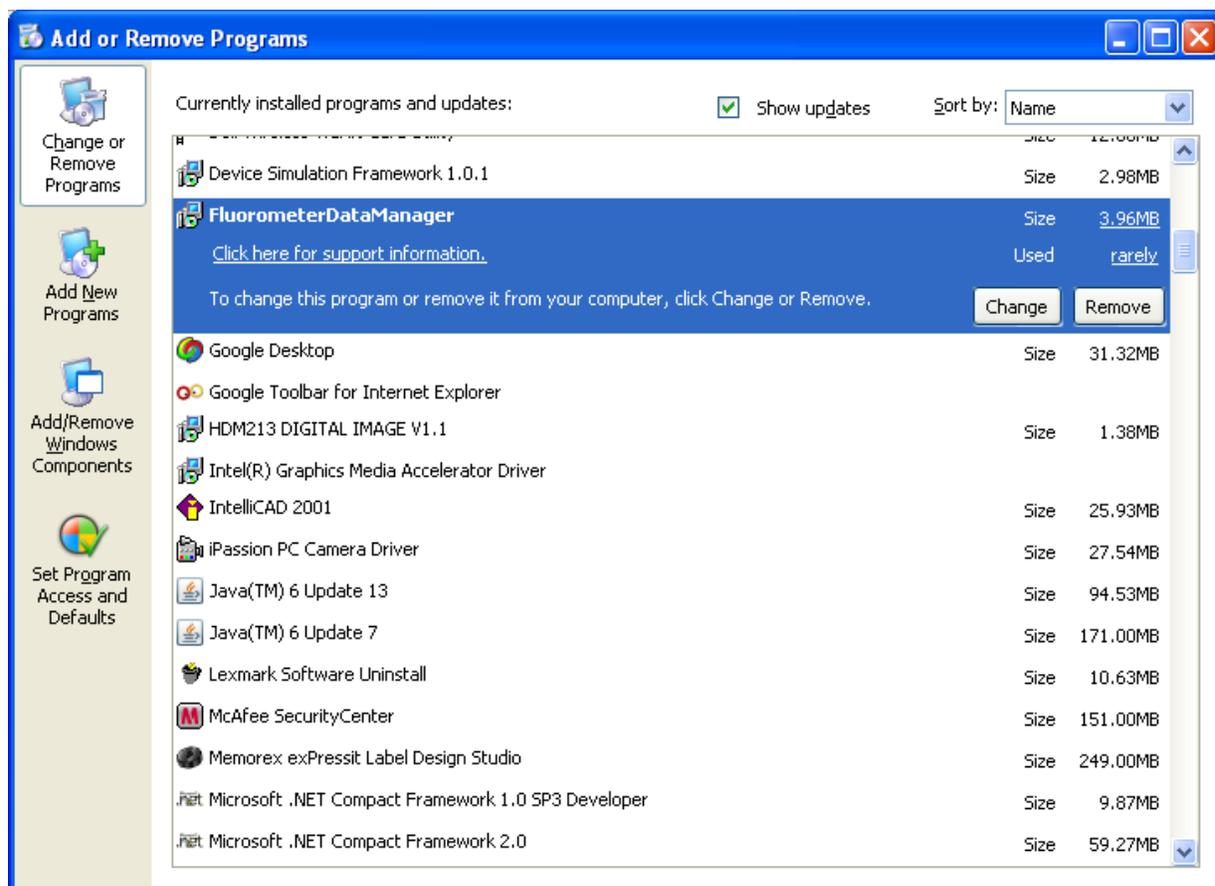

Figure 22. Uninstall Handheld Fluorometer application program
- Double click  tab in the “**Control Panel**” menu to get “**Add or Remove Programs**” window, as shown in Figure 22.